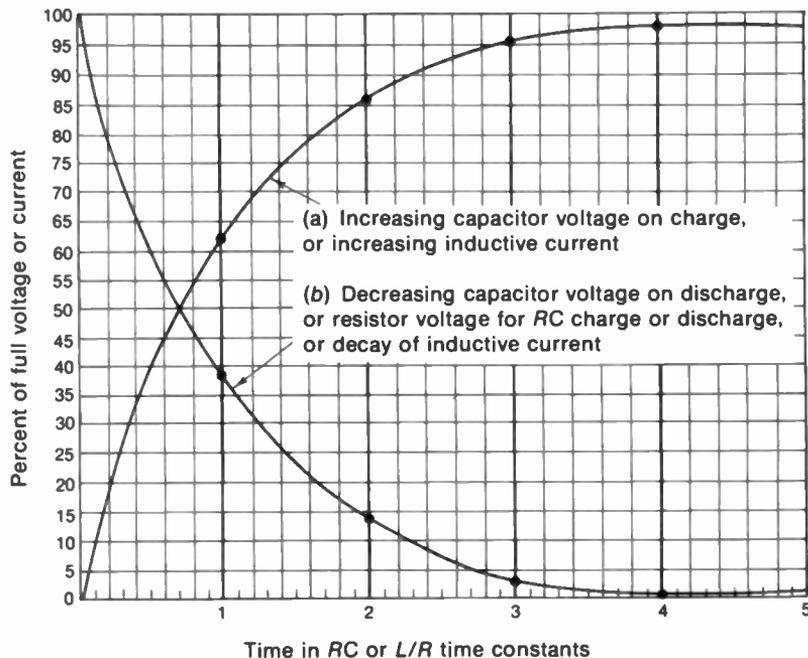

FIGURE D-3
The time constant states the time required for  $C$  to charge to 63 percent of the applied voltage. For discharge, the time constant states the time required for  $C$  to discharge 63 percent, or down to 37 percent of its original voltage. In our example,  $C$  charges 63 percent in 0.1 s. If the applied voltage is 100 V, after 0.1 s of charge  $v_C$  will be 63 V. If the capacitor discharges from 100 V, then  $v_C$  will be 37 V after 0.1 s. The capacitor is practically completely charged to the applied voltage after a time equal to five time constants. On discharge, the capacitor voltage is practically down to zero after five time constants. See the universal charge and discharge curves in Fig. D-3.
**Universal time-constant graph.** With the curves in Fig. D-3 you can determine voltage and current values for any amount of time. The rising curve *a* shows how the voltage builds up across  $C$  as it charges in an  $RC$  circuit; the same curve applies to the current increasing in the inductance for an  $RL$  circuit. The decreasing curve *b* shows how the capacitor voltage declines as  $C$  discharges in an  $RC$  circuit or the decay of current in an inductance.
In Fig. D-3 the entire  $RC$  charge curve actually adds 63 percent of the net charging voltage for each increment of  $RC$  time, although it